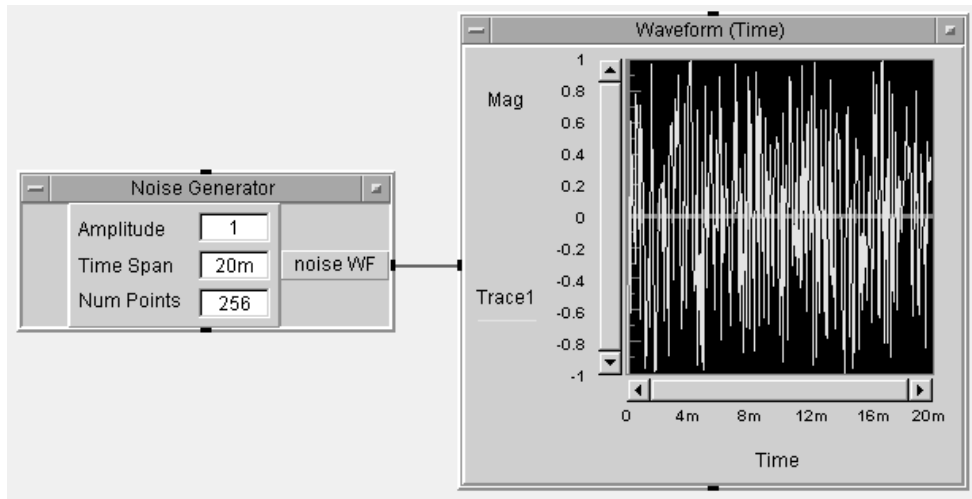

Figure 5.9. Displaying Noise Waveforms using VEE Pro functions
5. Run this program; it should look like Figure 5.9. Save this program as LAB5-4.